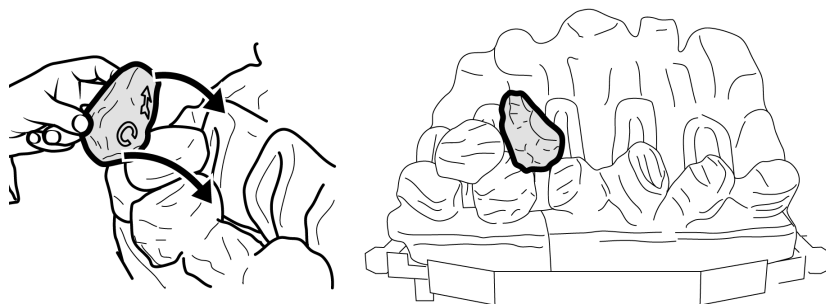

Figure 14. Second row "Coal C"
10. Hold coal 'C' upright with the arrow pointing to the top. Locate coal 'C' as shown in figure 14.